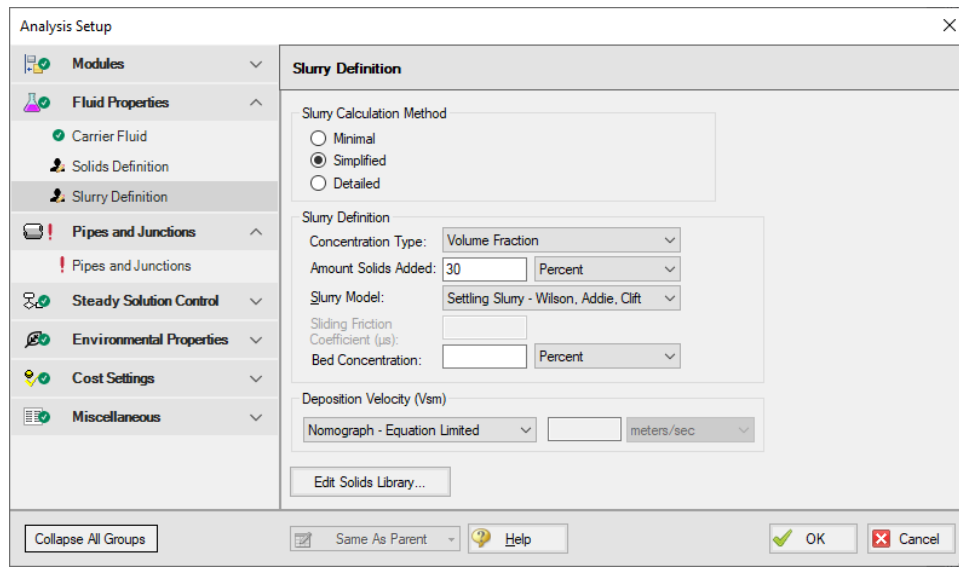

Figure 3: Slurry Definition panel in the Fluid Properties group in Analysis Setup with SSL activated
3. Slurry Definition - Figure 3